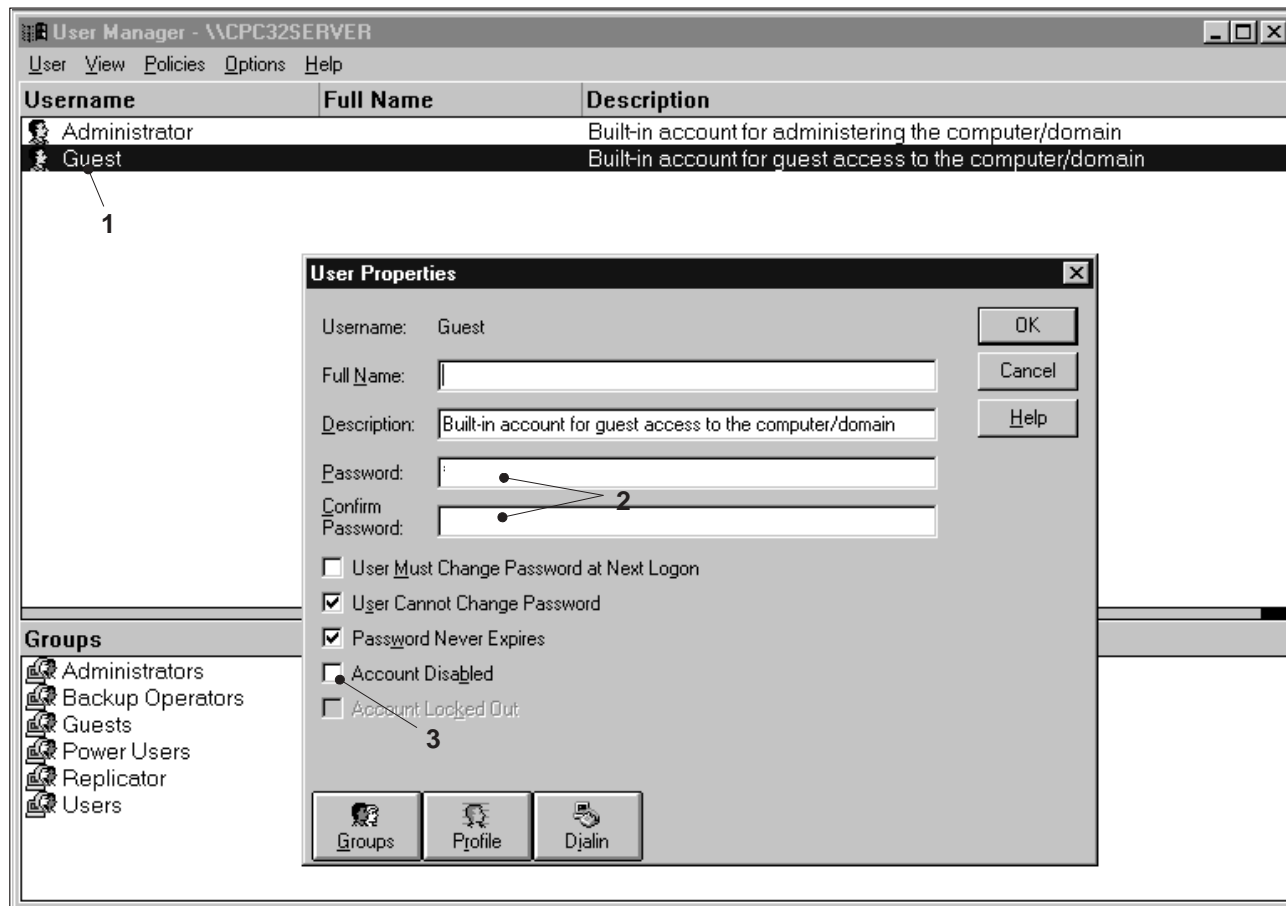

Fig. 3 User manager
- ① By clicking on the buttons **Start>Programs>Administrative Tools> User Manager for Domains** open the window "User Manager".
- ② Double click on the line **Guest** (Fig. 3/1).
- ③ Delete the entries on the lines **Password** and **Confirm Password** (Fig. 3/2).
- 4 By clicking on the rectangle in front of the line **Account Disabled** (Fig. 3/3) remove the tick.